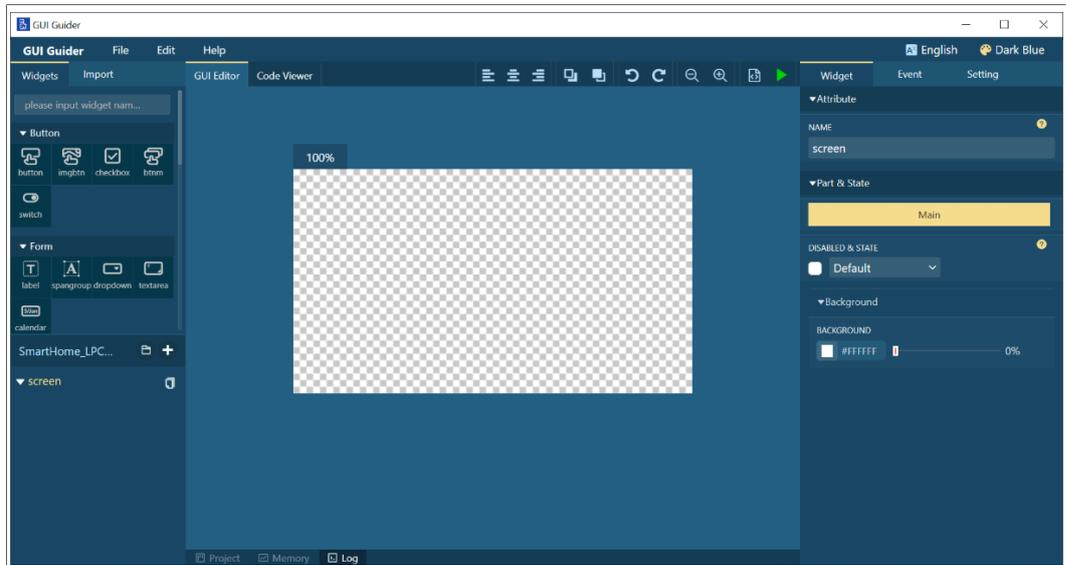

Figure 12. Created project
7. The created project is shown in Figure 12.